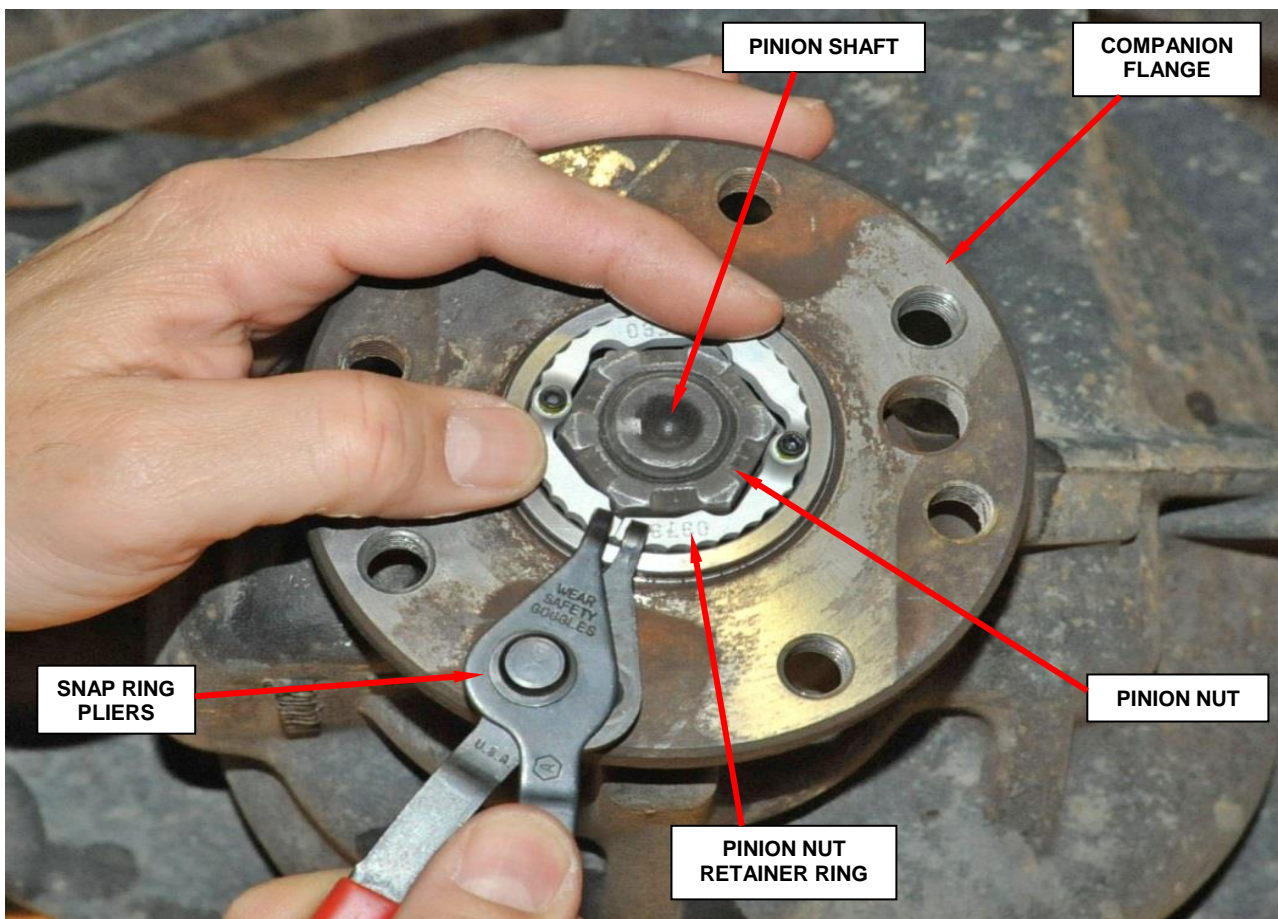

Figure 49 – Install Pinion Nut Retainer Ring
2. Using snap ring pliers, install the pinion nut retainer ring (Figure 49).